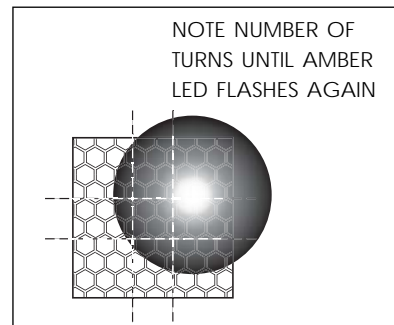

Fig 19
- Turn the thumbwheel back, counting the number of turns as you go, until the amber LED starts flashing again and stop (*Fig 19*). If the red LED flashes at any point, wait until it goes out before going on.